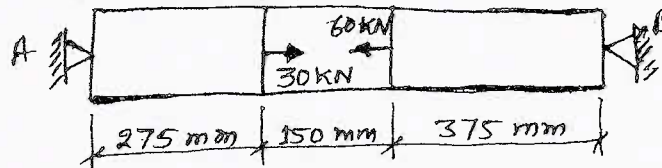

Fig.Q.1(c)
- c. Determine the reactions at the two ends of the bar if the diameter is 25mm and modulus of elasticity is 200 GPa as shown in the Fig.Q.1(c). (06 Marks)